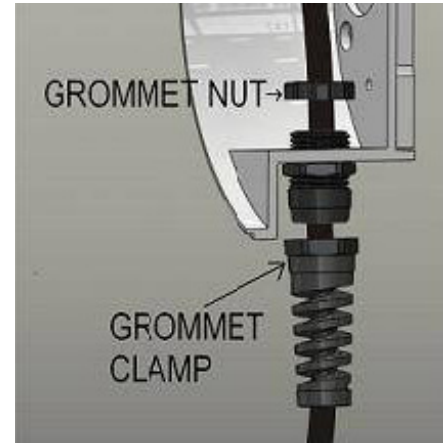

Figure 84
- Loosen the cable grommet clamp as shown in Figure 84. Loosen the grommet nut inside the Base Unit as shown in Figure 84 and remove the grommet & the cable out of the Base Unit (through the cable entry hole).